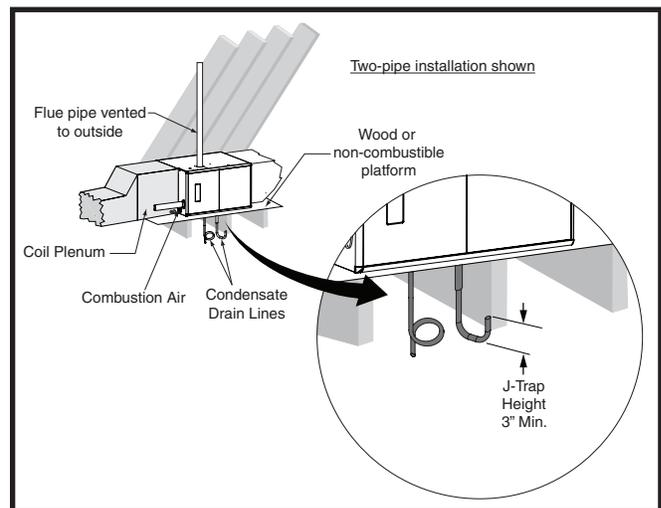
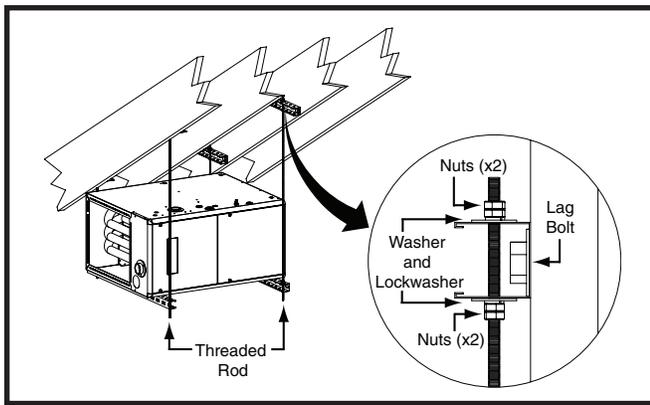

Figure 11. *SC & *SD Horizontal installation on a Platform
Figure 12. *SC & *SD Horizontally Suspended in an Attic
For Installations where there is limited clearance for the J-Trap (such as an attic where it may be installed between ceiling joists), either side of the J-Trap can be shortened to a minimum of 3 Inches. See Figure 11 \(page 14\).
*SC & *SD series gas furnaces can be installed horizontally (Figure 11) in an attic, basement, crawl space or alcove. It can also be suspended from a ceiling in a basement or utility room in either a right to left airflow or left to right airflow as shown in Figure 12 (page 15).
If installing the furnace with an evaporator coil (in an attic), it is required that a drip pan be placed under the furnace. If the installation is on a combustible platform as shown in Figure 11, it is recommended that the drip pan extend at least 12 inches past the top and front of the furnace.
If suspending the furnace from the ceiling, assemble a support frame (Figure 12) using slotted iron channel and full threaded rod. Fasten the frame together with nuts, washers, and lockwashers. Secure the support frame to the rafters with lag bolts. The furnace can also be suspended using steel straps around each end of the furnace. The straps should be attached to the furnace with sheet metal screws and to the rafters with bolts.